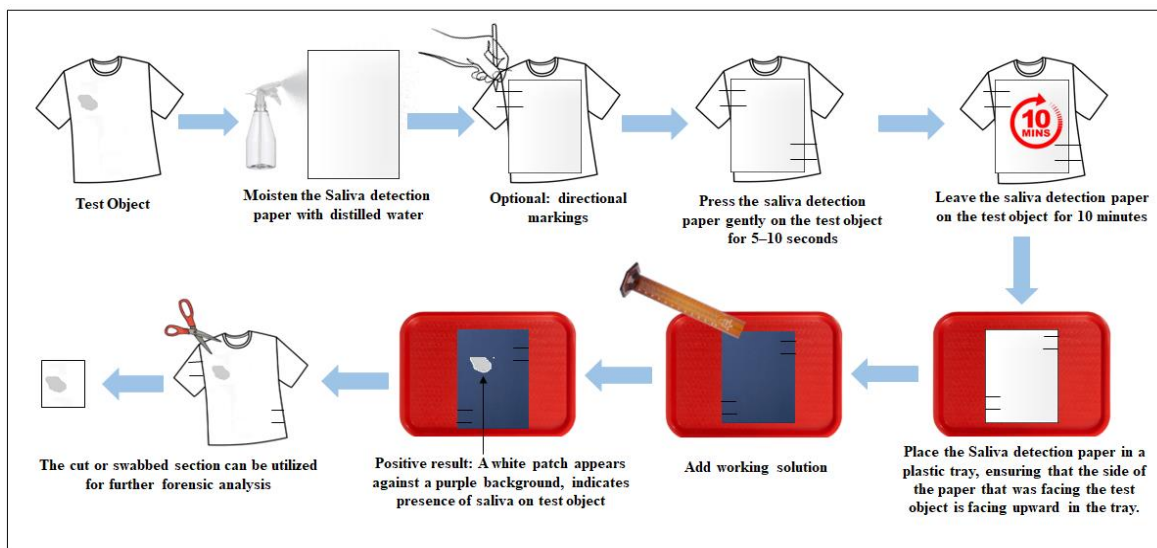

Fig 1. Schematic representation of saliva mapping
4. *Optional:* If needed, to ensure accurate mapping, create simultaneously directional markings on the saliva detection paper and test object, such as vertical or horizontal lines, allowing easy tracing of the saliva location on test object once results are developed (Fig 1).